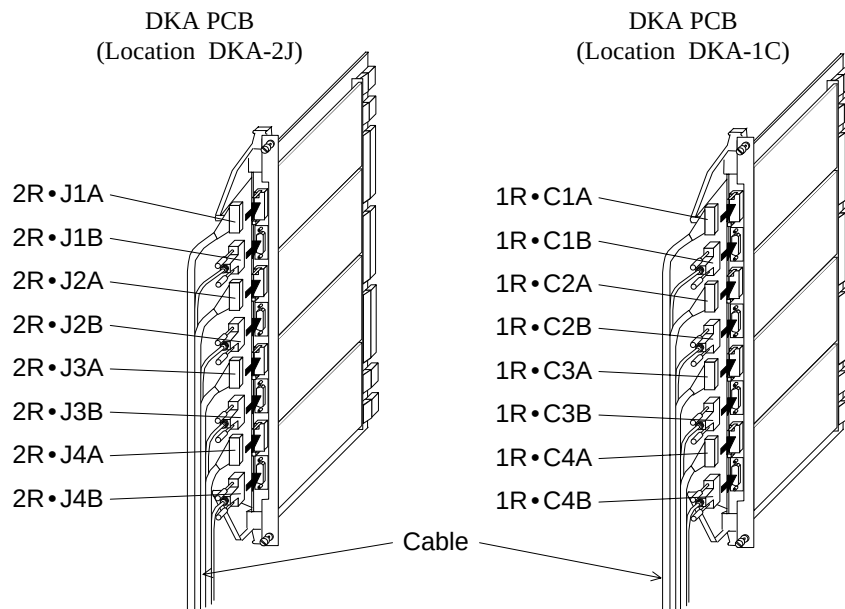

Fig.3.11.3-3 Connection of cable (Add.1)
a. Connect the cables to the sub-edge of PCBs. (Refer to Fig. 3.11.3-3.)